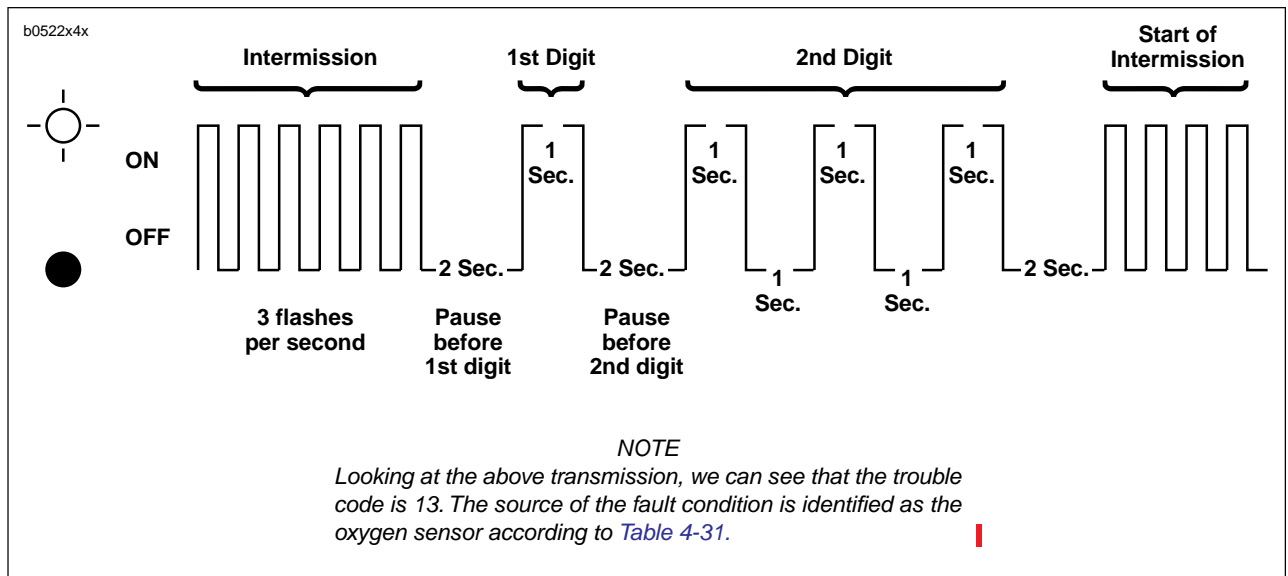

Figure 4-119. Check Engine Lamp Diagnostics
3. See Figure 4-119. All trouble codes are sent out as a series of flashes. To retrieve the first digit of the trouble code simply observe the number of times the lamp flashes.